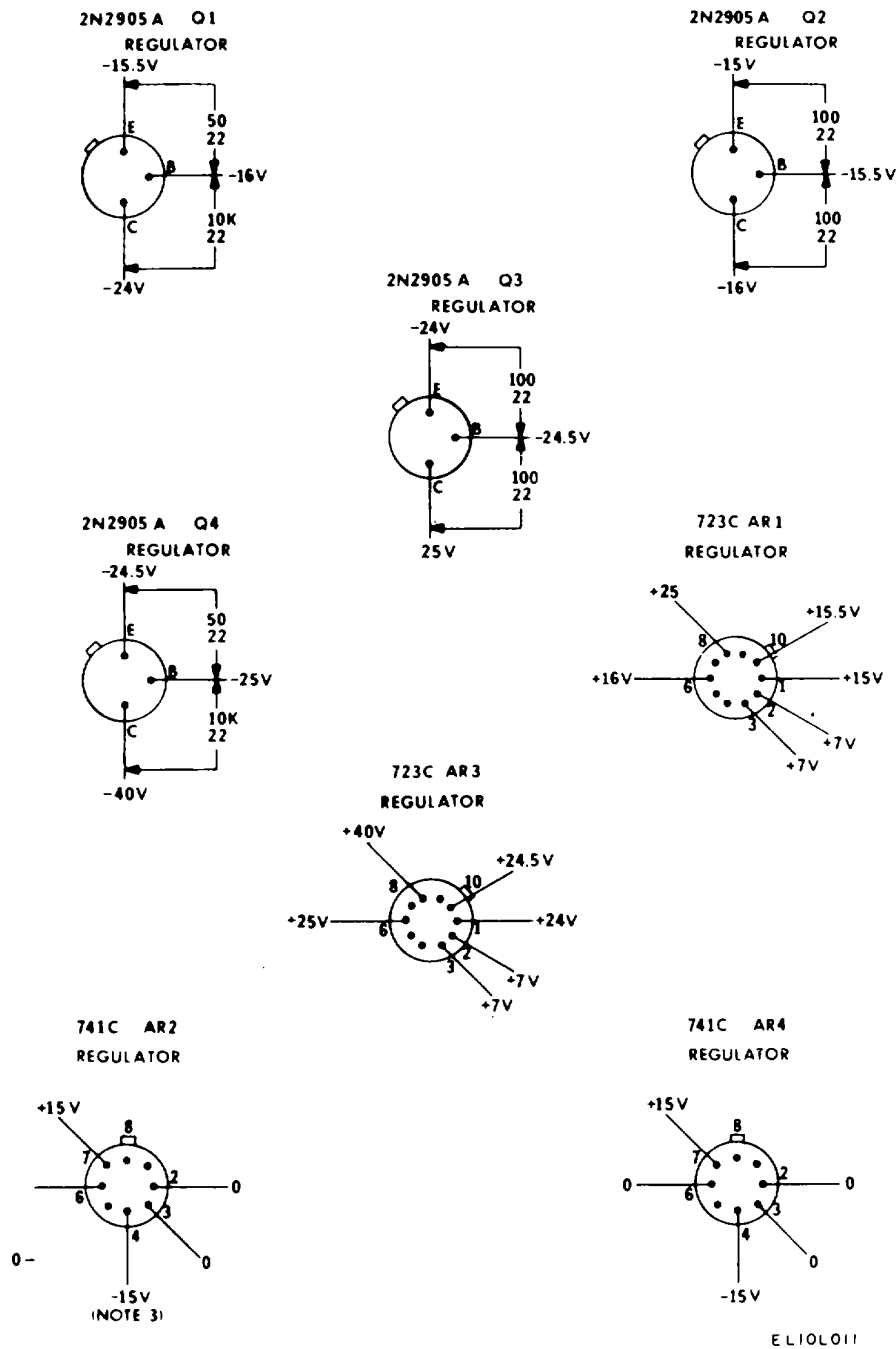

Figure 7-3. Power supply regulator, circuit measurements
location of the power supply assemblies and to figures 7-1 and 7-2 for parts location and test point location on the A11 assembly. Figure 7-3 gives circuit voltage and resistance measurements for assembly A11.
(1) Remove assembly All from its socket and perform the resistance measurements in table 7-4, using the RX1 scale on the multimeter. Make the measurements at the socket.
(2) If the resistance measurements are correct, reinstall A11 and perform voltage and resistance measurements as indicated in figure 7-3 to locate the defective part. If the resistance readings are lower than indicated, there may be a short circuit in the equipment. Systematically remove and replace the other assemblies to determine the location of the defect.